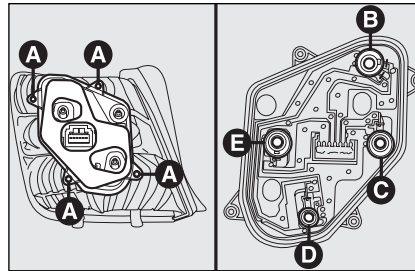

fig. 32
- unloose the 4 screws **A**-fig. 32 and remove the bulb holder;